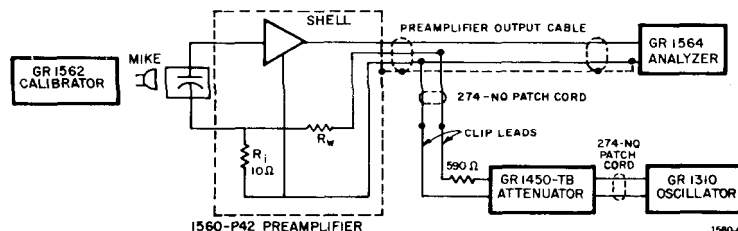

Figure 4-4. Setup for comparison of unknown with reference microphone.
a. Make the setup shown in Figure 4-4. The 590-Ω resistor at the attenuator output provides the proper 600-Ω load for the attenuator when the 10-Ω insert resistor is driven. Power for the Preamplifier is furnished by the 1564.